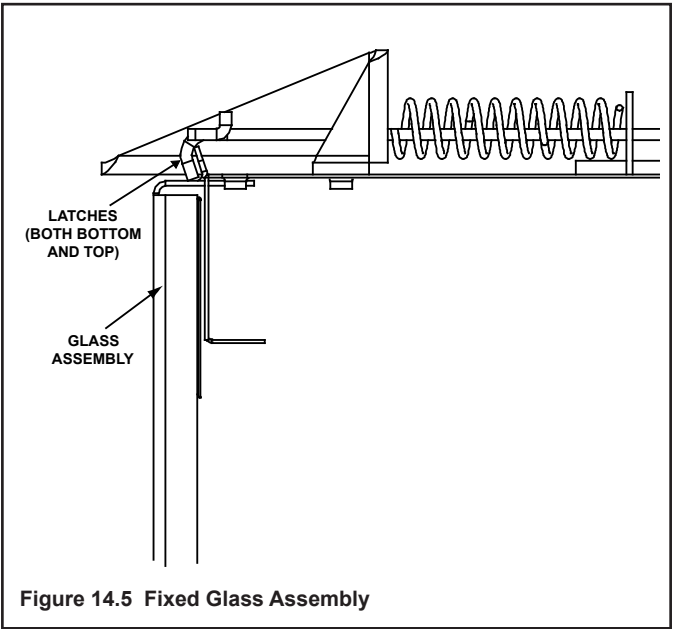

Figure 14.5 Fixed Glass Assembly
- Pull the four glass assembly latches out of the groove on the glass frame. Remove glass door from the appliance. See Figure 14.5.